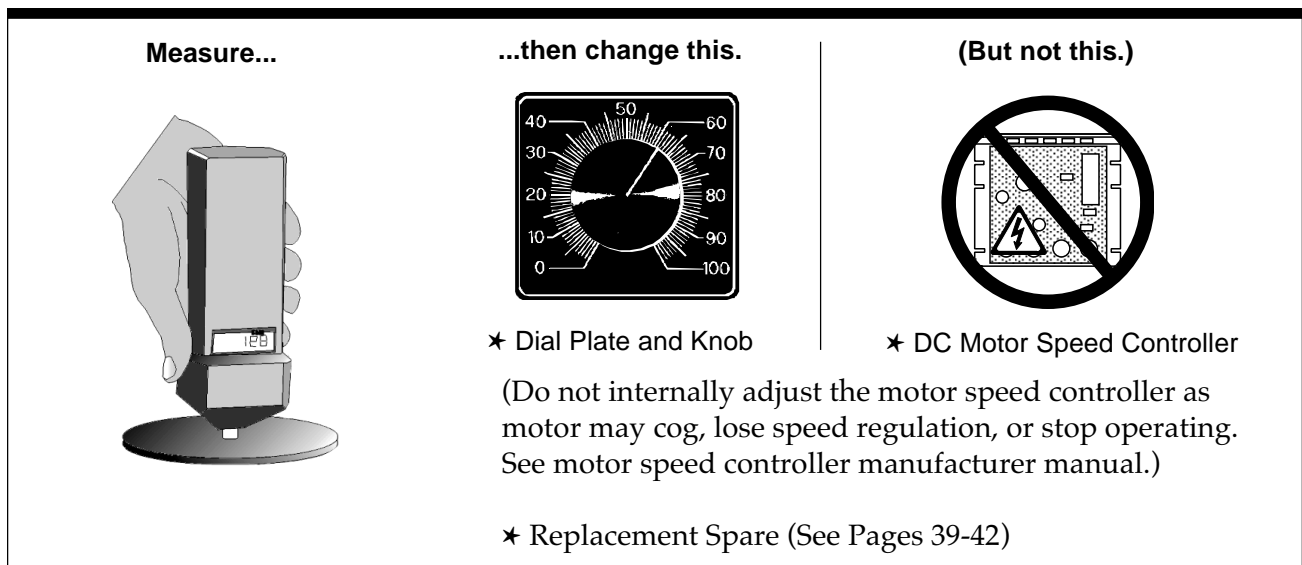

Figure 3-1. Measuring and Changing Bowl Speed
- ▶ You will need a hand-held tachometer (analog or digital) with a surface speed wheel indicator (see Figure 3-1).